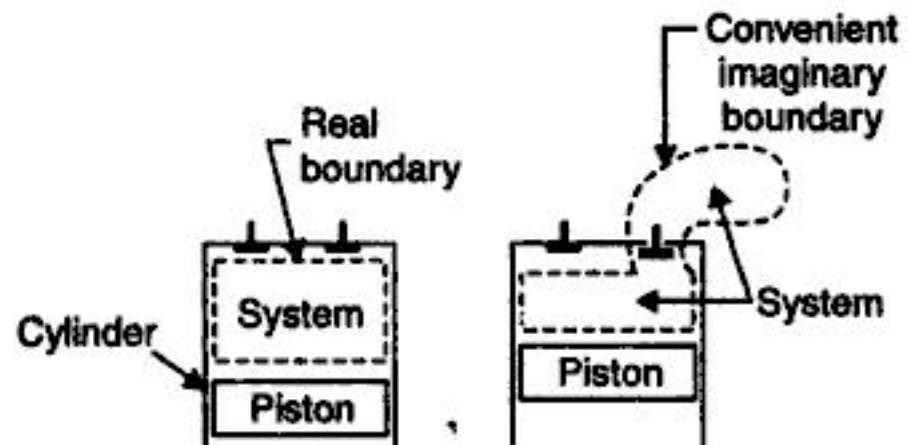

Fig. 1.2. The real and imaginary boundaries.
**Boundary.** The *actual or hypothetical envelope enclosing the system* is the boundary of the system. The boundary may be fixed or it may move, as and when a system containing a gas is compressed or expanded. The boundary may be *real or imaginary*. It is not difficult to envisage a real boundary but an example of imaginary boundary would be one drawn around a system consisting of the fresh mixture about to enter the cylinder of an I.C. engine together with the remnants of the last cylinder charge after the exhaust process (Refer Fig. 1.2).